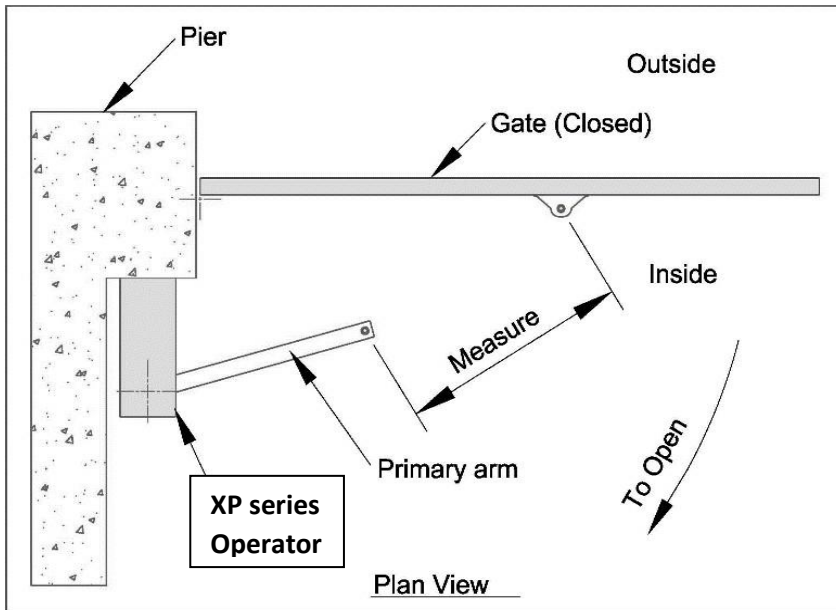

Figure 7: Measure length of secondary arm.
1. Move the primary arm to a position suitable for the closed gate, remembering that in the closed position the primary and secondary arms must stop short of a straight-line alignment (see figure 7)